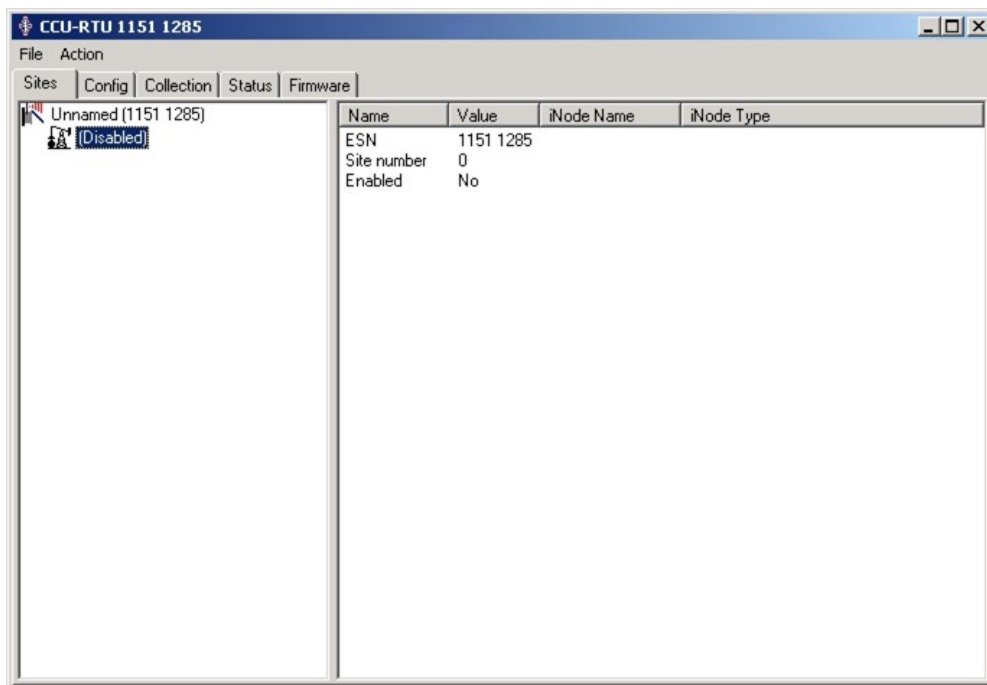

Figure 5. Site disabled.
- 4) Initially the Sites page (the first CCU-RTU page displayed) may be disabled as shown in Figure 5. If so, enable the site by tapping **Action > Enable Site**.